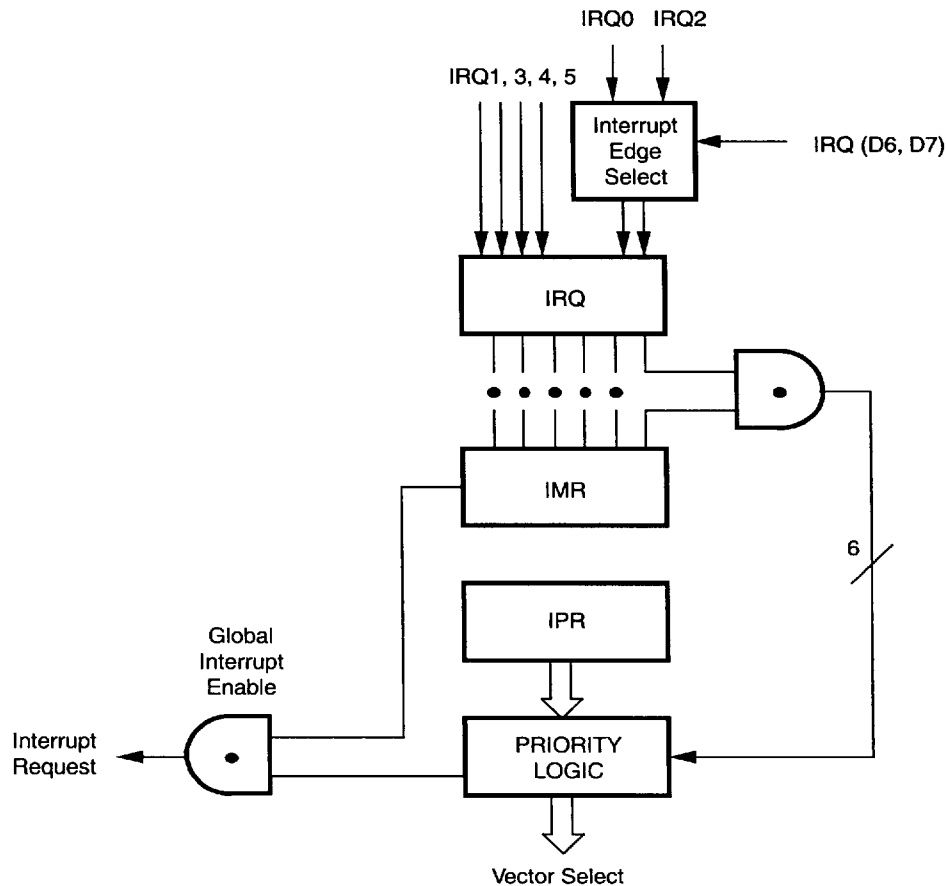

Figure 12. Interrupt Block Diagram
**Interrupts.** The Z86L03/06 has six different interrupts from six different sources. The interrupts are maskable and prioritized (Figure 12). The six sources are divided as follows; three sources are claimed by Port 3 lines P31-P33, two sources in the counter/timers, and one source for the SPI. The Interrupt Mask Register globally or singularly enables or disables the six interrupt requests (Table 2).